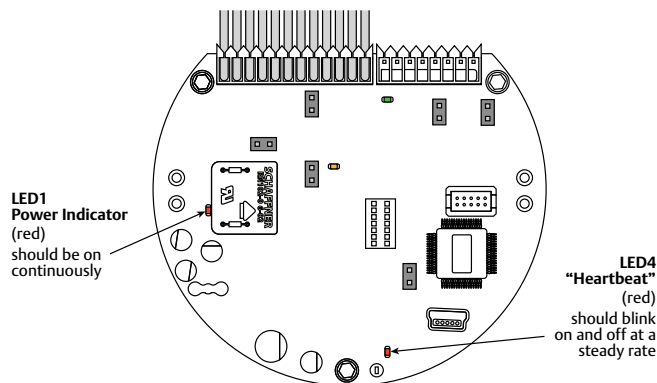

Figure 9: These LEDs Indicate That the ER5000 Has Been Successfully Connected to the Power Supply
6. Unscrew and remove the cover of the ER5000 to view the control board. Refer to *Figure 9*.